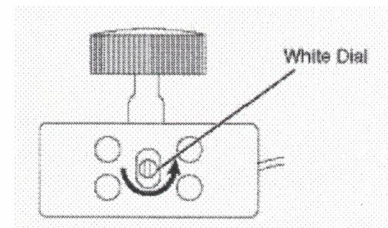

Figure 43 - Location of White Dial on Speed Control
13. Connect wiring according to the wiring diagram *Figure 43*.
18. If the blower does not turn on, turn the fireplace off and allow cooling. Unplug the blower. Using a jeweler's style screwdriver, turn the white dial on the side of the variable speed control 1/8 turn counterclockwise. *Figure 43*. This will allow the blower motor to start at the low speed setting as the fireplace cycles on and off. Retest the blower.